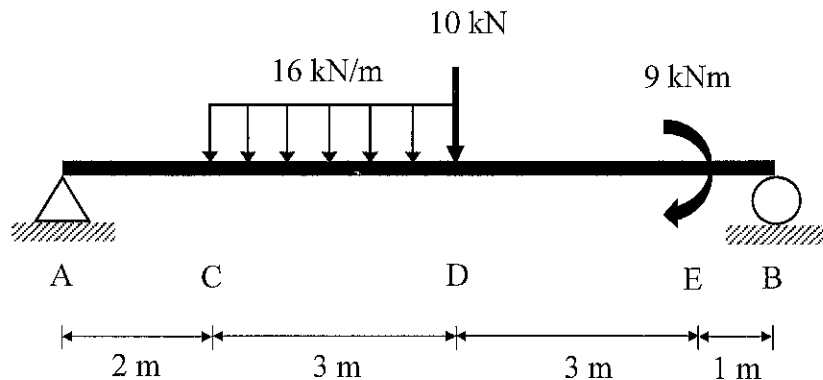

Figure A1(b) / Rajah A1(b)
- (b) A simply supported beam AB 9 m long carries a point load, uniformly distributed load and moment as shown in Figure A1(b). With the aid of free body diagram, find out the reaction force at each support.